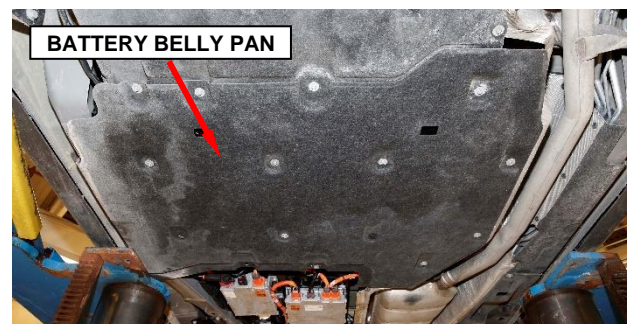

Figure 16 – Battery Belly Pan
4. Remove the fasteners then remove the battery belly pan (Figure 16).
34. Install the battery belly pan then install the fasteners securing the battery belly pan (Figure 16).